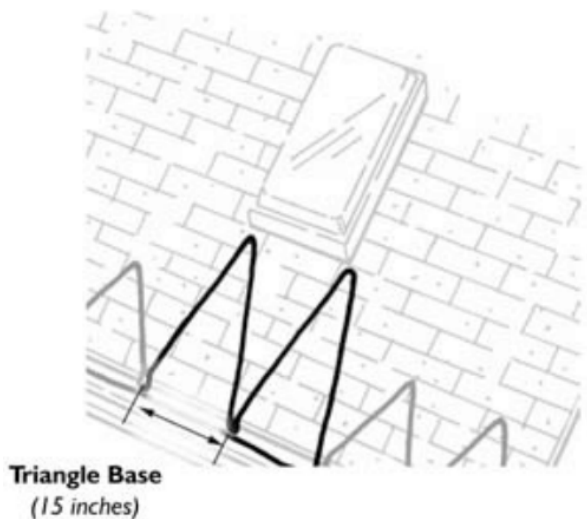

Figure 5. Triangle pattern near skylight
• Pattern for skylights: Problem skylight areas are also treated with the “triangle pattern” approach. However, the height of the triangles may need to be greater than those along the roofline. Increase the triangle height so that it extends to one shingle row (51/2 inches) below the skylight. The triangle base is maintained at 15 inches (See Figure 5). Triangle heights must not exceed 20 feet. The clips provided with the kit are not designed to attach triangles this large. For problem areas that are more than 20 feet from the roof edge, commercial grade deicing cable should be installed by a professional installer, contact Warmup for assistance.